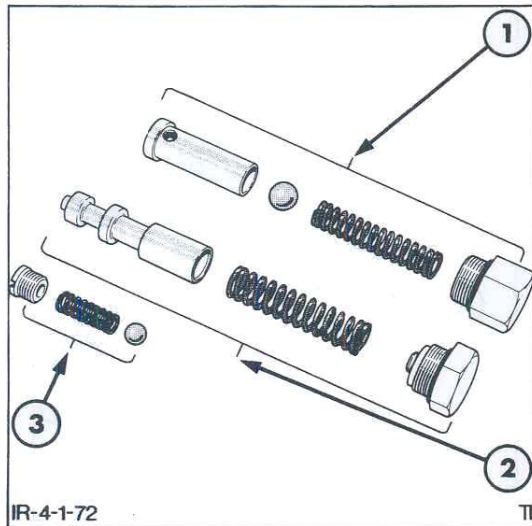

Figure 72
7. Inspect the by-pass valve seat and ball for scratches and pitting, Figure 72. If scratch marks cannot be removed by polishing, install new parts during
8. Inspect the regulating valve spool, Figure 72 for excess wear, grooves or scratches that may cause the spool to malfunction. If scratch marks cannot be removed by polishing, install new parts during assembly. Check the spring and if suspect, measure spring dimensions, see "Specifications" – Chapter 3.